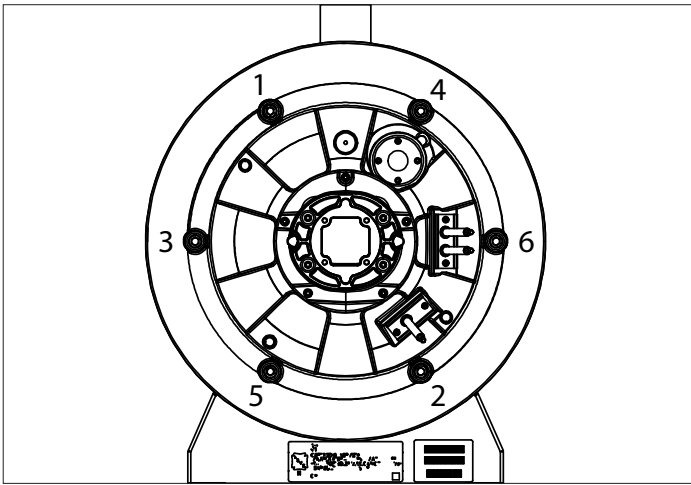

Figure 63 - Heat Exchanger Detail - Burner Door Torque Sequence
- c. Reinstall and tighten the bolts to the burner plate using staggered tightening sequence. See Figure 63 and Table 37.